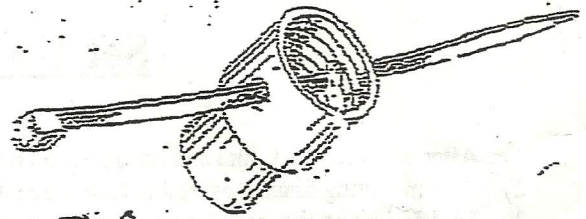

Fig. 2
- 5) Find plastic wire ties and insert one through the pair of holes at the end of each rod. (Fig. 2)